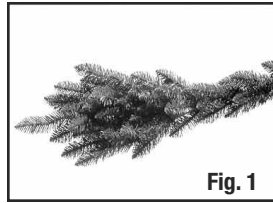
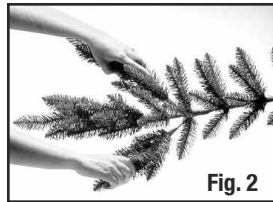
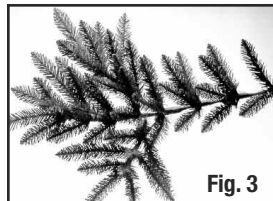

Fig. 1
Fig. 2
Fig. 3
1. If your tree has a metal stand, unfold it and insert the eye bolt. Remove packing material from ends of poles. Put bottom section pole into tree stand making sure it is seated properly (Figure 1). Tighten eye bolt. If your tree has a plastic stand, slide legs upward into slots at base of bottom section (Figure 2) and tap lightly with a hammer until secure. **WARNING:** Using excessive force to assemble base may cause breakage.
2. Insert the top tree section into the green plastic opening of the lower tree assembly. This is the "pole cap" which keeps tree top section securely in place (Figure 3). *Power connect trees will not have a pole cap. Center pole of top section simply inserts into center pole of section below.* For larger trees with middle section, carefully insert middle section pole(s) into bottom section pole (Figure 4) as instructed in **SPECIAL NOTE ABOUT GIANT TREES** below. Then insert top section into pole cap. *Optional:* You may want to lubricate middle section pole ends prior to assembly. This will make sections easier to separate when disassembling for storage.
1. Unfold the tree stand and insert the eye bolt. Remove packing material from ends of poles. Put bottom section pole into tree stand making sure it is seated properly (Figure 1). Tighten eye bolt until bottom section is held securely.
2. Insert the top tree section into the green plastic opening of the lower tree assembly. This is the "pole cap" which keeps tree top section securely in place (Figure 2). *Power connect trees will not have a pole cap. Center pole of top section simply inserts into center pole of section below.* For larger trees with middle section, carefully insert middle section pole(s) into bottom section pole (Figure 3) as instructed in **SPECIAL NOTE ABOUT GIANT TREES** below. Then insert top section into pole cap. *Optional:* You may want to lubricate middle section pole ends prior to assembly. This will make sections easier to separate when disassembling for storage.
1. Every tree style is shipped from the factory with the tips of each branch compressed to the center (Figure 1).
2. Each branch tip must be shaped to its proper position to give the tree a natural look. This is done by gently grasping the left and right wing tips and spreading them out away from the center tip (Figure 2).
3. Each individual tip should then be spread out separately. Tips should then be bent slightly upward to add a more natural looking appearance. Figure 3 shows a typical tree branch after shaping.